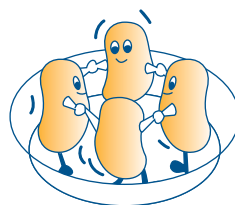

fig. 5
- 5) If you are cooking a number of portions of the same type of food (eg. boiled potatoes), arrange the portions **in a ring** around the outside of an oven-proof dish to ensure they cook evenly (see fig. 5).